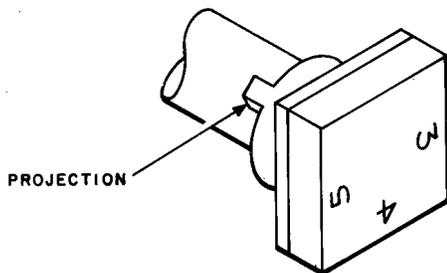

Fig. 28—625-Type Key, Designation Card Numbers Correctly Positioned With Reference to Projection on Plunger
3.14 624-, 625-, 630-, and 650-Type Keys: To replace the lens, filter, retainer, or designation card, remove the retainer using the #374B tool and replace the part as required. When replacing the designation card of the 625-type key, the plunger should be removed from the key frame and the designation card numbers positioned with reference to the projection on the plunger as shown in Fig. 28.